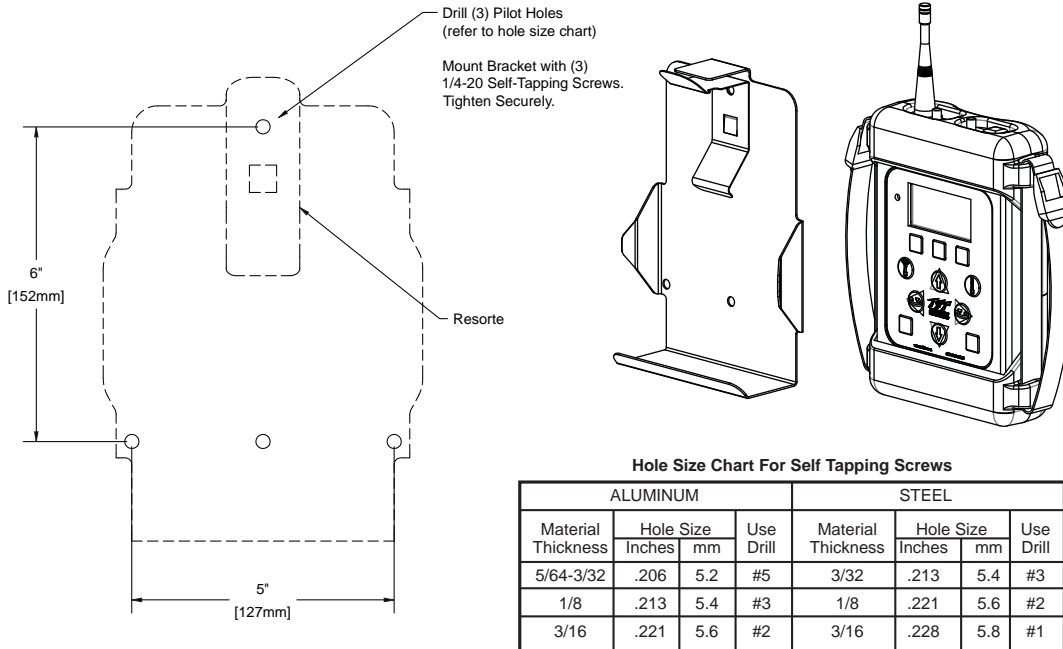

Fig 4.7.1 Wireless Operator Station Storage Bracket Hole Dimensions
The storage bracket is supplied with (3) 1/4-20 stainless steel self-tapping screws. Make sure the material beneath the bracket is substantial and thick enough to hold self-tapping screws. Make sure the area on the backside of the mounting surface is clear of obstructions. We recommend a minimum thickness of 3/32" (.093" - 2.4 mm) in aluminum and 5/64" (.078"-2mm) in steel See the chart in Figure 4.7.1 to determine the correct pilot hole size.
Select proper location for mounting storage bracket. Panel space required will be 6.0" x 11.2" (152mm x 285mm). Refer to Figure 4.7.1 for hole dimensions. Bracket can be used as a template. Be sure spring is in position.